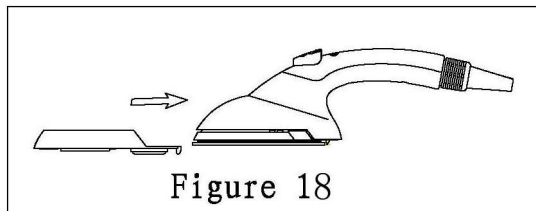

Figure 18
**CAUTION:** Use care when attaching fabric brush, as the sole plate may be hot. Do not attempt to attach fabric brush while appliance is emitting steam. As shown in figure 18 below, slide the fabric brush over the sole plate until it clicks in place. When the fabric brush is clipped in place you may begin steaming.